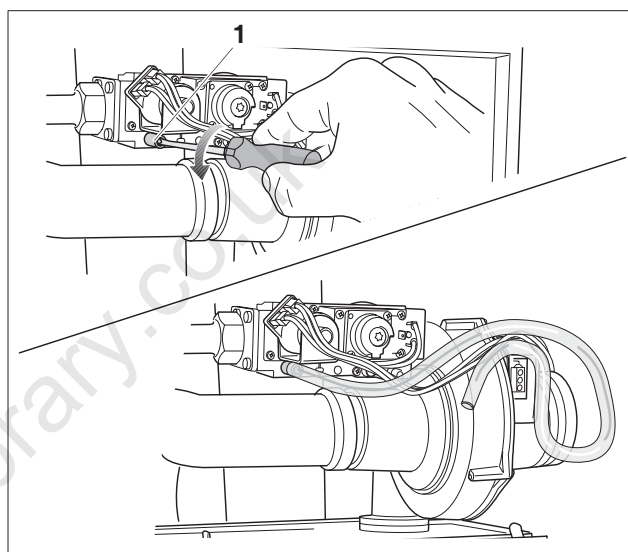

fig. 86 Bleeding the gas flow pipe
- Open the screw plug on the testing nipple of the gas supply pressure and for purging (fig. 86, **item 1**) by 2 turns and install a hose.